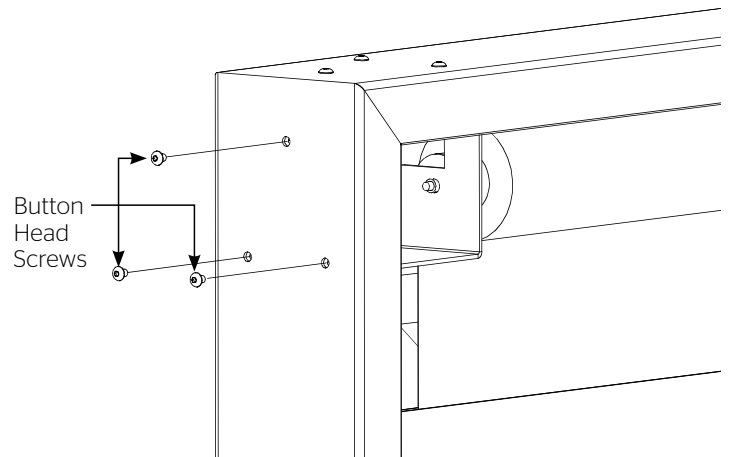

Figure 5
5. Using a 1/8" allen wrench, insert (3) #10 x .500" long button head screws in frame corner connector bracket. Tighten down snug to frame surface (Figure 5).